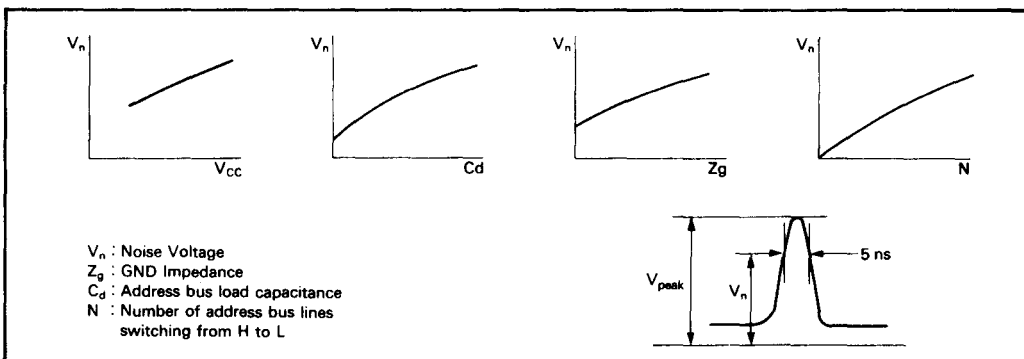

Figure 21. Dependency of the Noise Voltage on Each Parameter
Figure 21 shows the noise voltage dependency on the each parameter.
1. Control each parameter such as  $C_d$ ,  $V_{CC}$ ,  $Z_g$  in figure 21, and the noise level is reduced to be allowable.